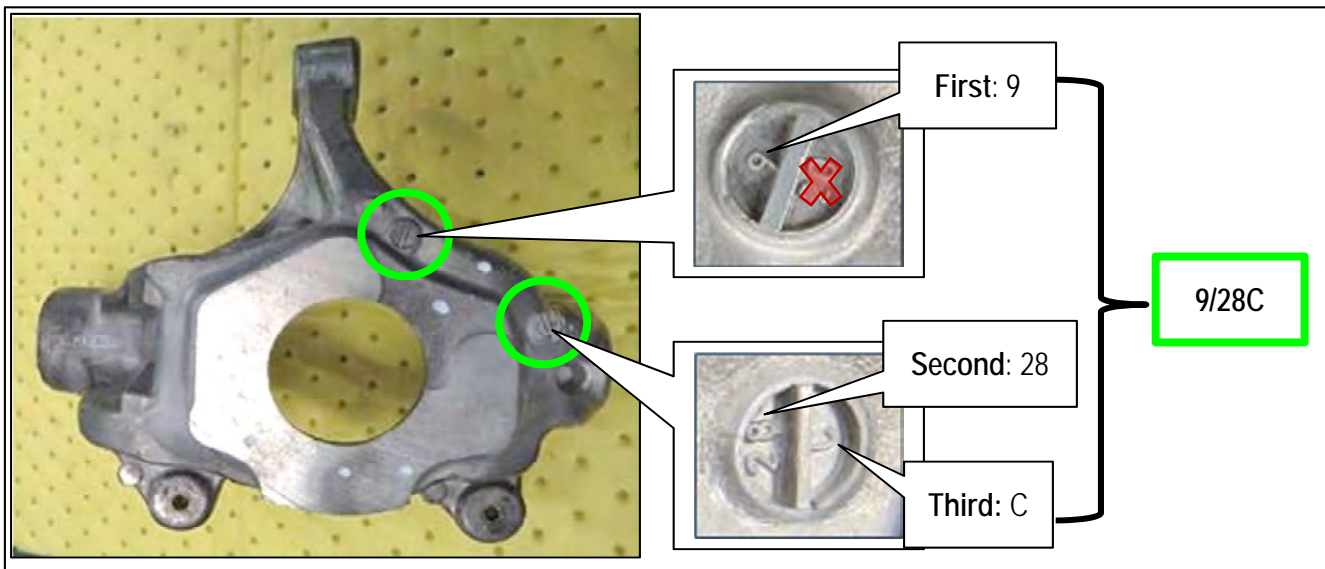

Figure 28
18. Locate the casting stamp dates on each suspension knuckle, where indicated in Figure 28.
**NOTE:** Orient the suspension knuckle, as shown in Figure 28 (RH side is shown, LH side will be reversed).
- a. Write down the upper character of the casting stamp nearest the tie rod end mounting point. This will be the first character of the casting stamp date. This is the number "9" of the example below in Figure 28.
- c. Write down the upper character followed by the lower character of the casting stamp nearest to the lower ball joint mounting point. This is the number "28" followed by the letter "C" of the example below in Figure 28.